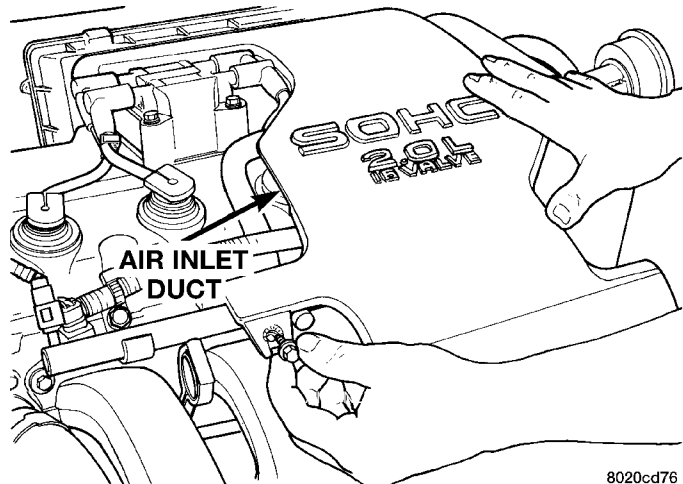
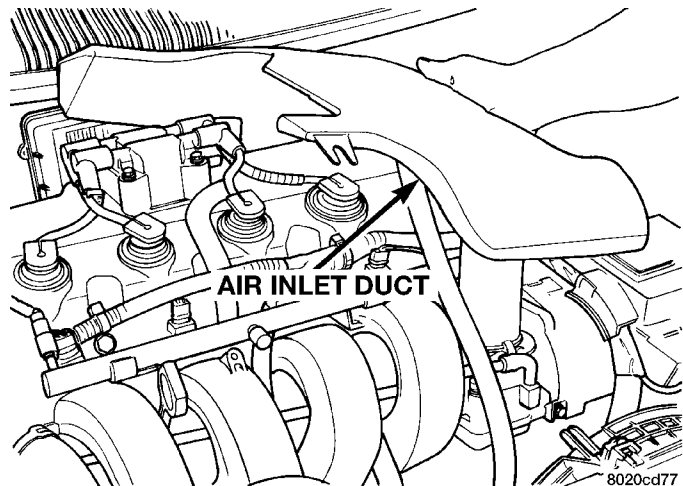

Fig. 103 Air Intake Duct
Fig. 104 Removal/Installation of Air Inlet Duct
- (1) Remove air intake tube (Fig. 103) from air cleaner and intake manifold (Fig. 104).